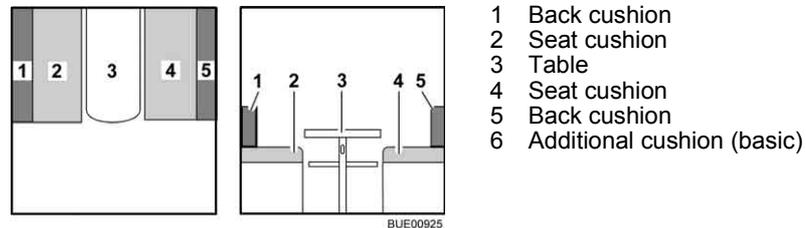

Fig. 88 Prior to conversion
- Convert the table (Fig. 88,3) to a bed foundation (see section 6.11).